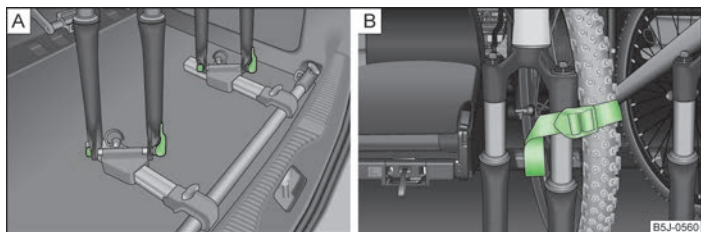

Fig. 55 Put in the bicycle/example fastening the front wheel
- Fit the bicycle fork onto the fixing axle and tighten with the quick tension jack » Fig. 55 - [A].
- It is best to store the removed front wheel between the crank of the left pedal and the bicycle frame, attach it with a strap to the front fork » Fig. 55 - [B] and/or to one of the fixing points.